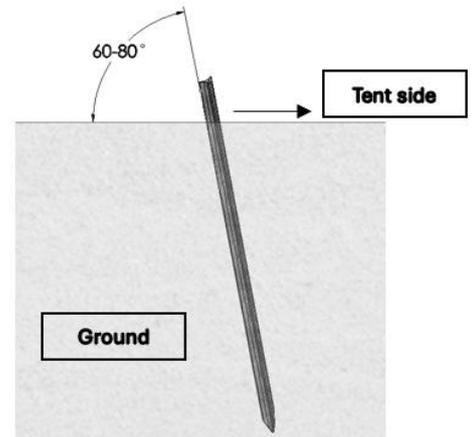

Figure 6: Star Picket installation angle
2. Install each star picket at an angle of 60–80 degrees (Figure 6).